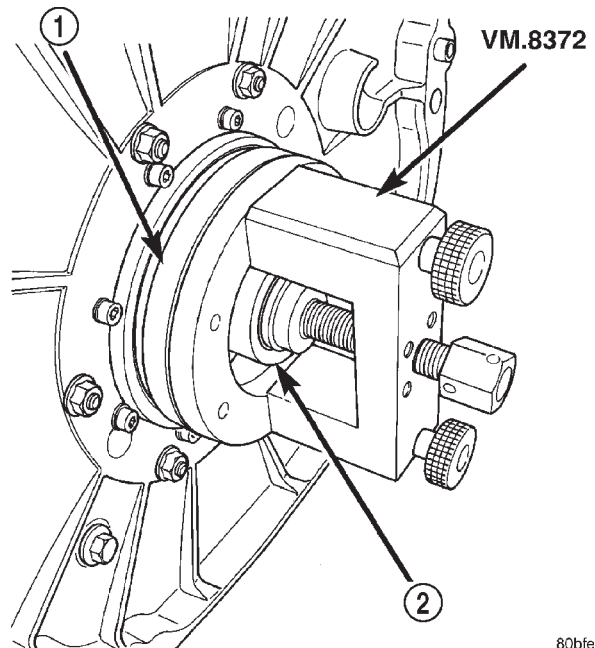

Fig. 108 VM-8372
(2) Install special tool VM-8372 on the flexplate adapter hub (Fig. 108).